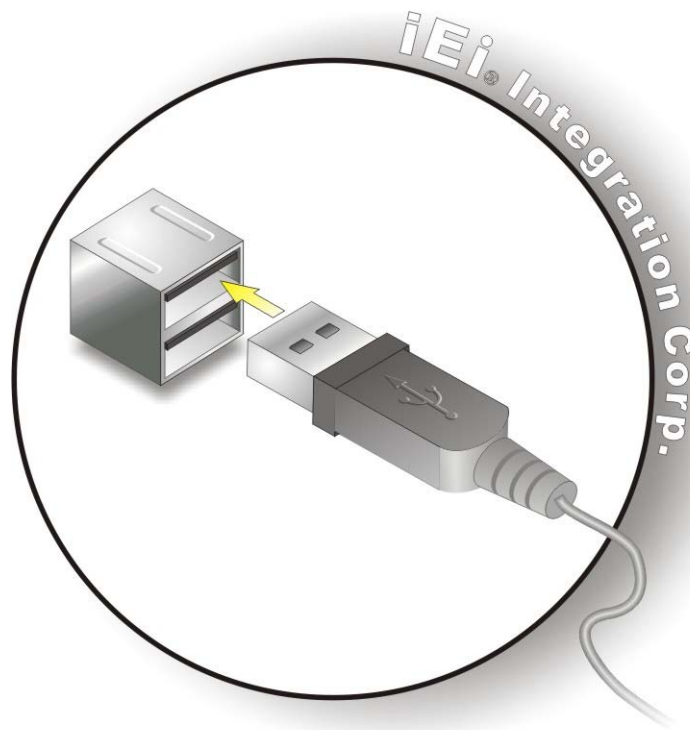

Figure 4-18: USB Connector
Step 2: Insert a USB Series "A" plug. Insert the USB Series "A" plug of a device into the USB Series "A" receptacle on the external peripheral interface. See **Figure 4-18**.